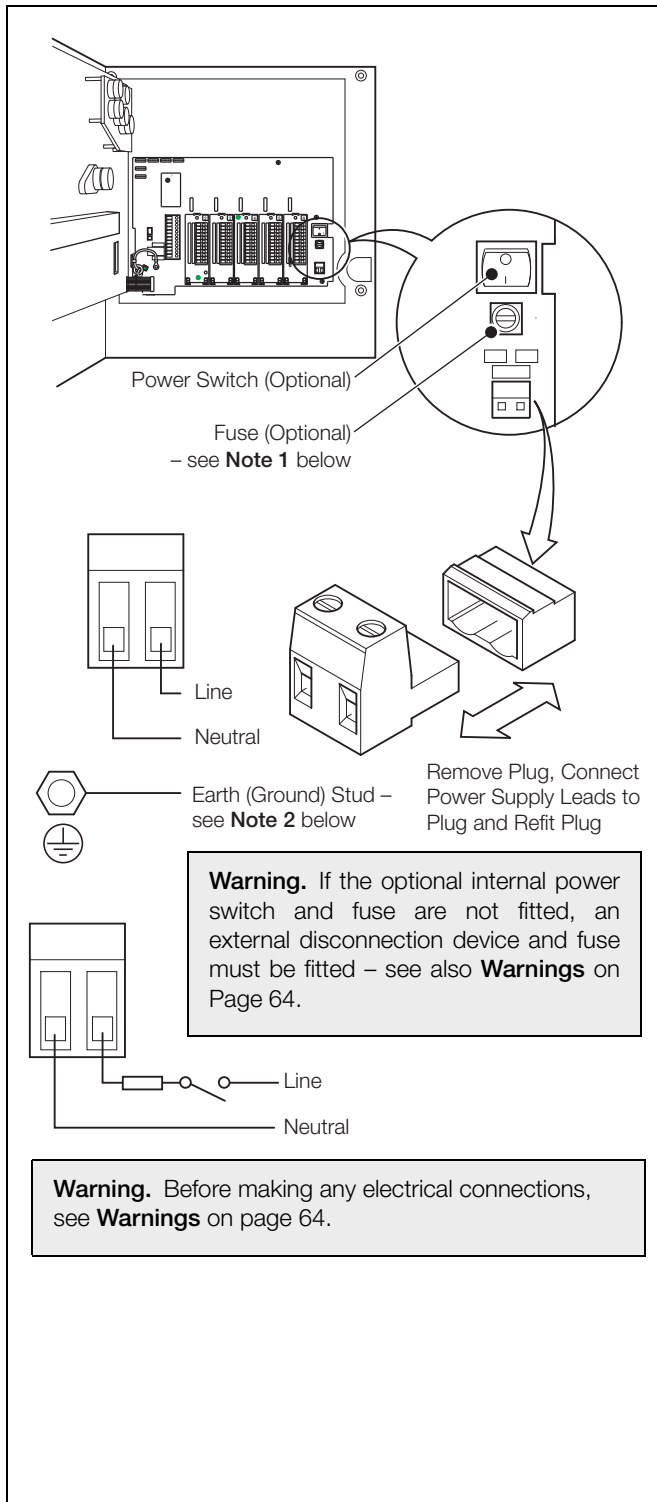

Fig. 5.9 Power Supply Selection and AC Connections
- Use screened cable for signal inputs and relay connections. Connect the screen to the earth (ground) stud – see Fig. 5.9 on page 71.